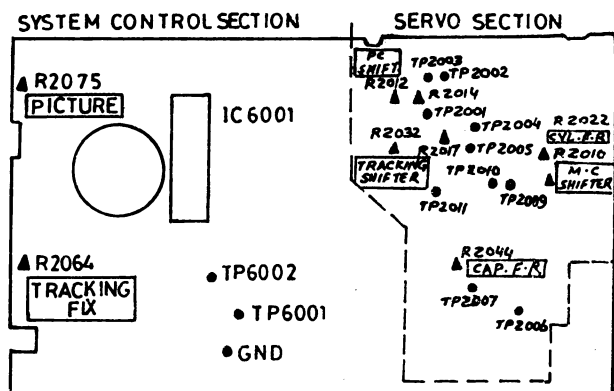

Fig. 11.2
1. Connect the oscilloscope to TP 2001 on the servo section.(Fig.11.2)